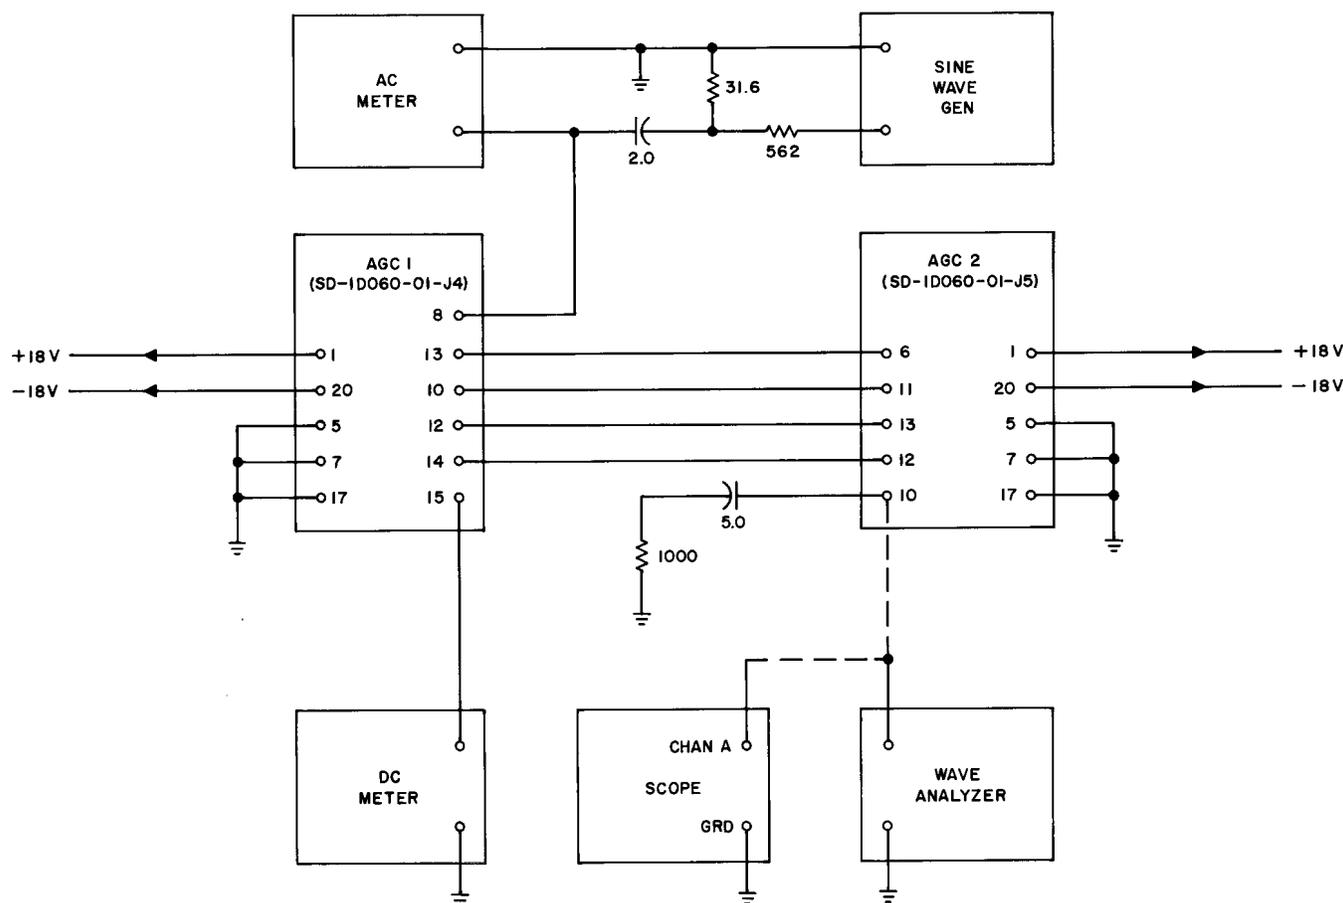

Fig. 27A — Automatic Gain Control 2 Test Circuit
(1) The gain control test of the AGC2 circuit pack is made in conjunction with the AGC1 circuit pack. Connect the circuit packs to the suggested test circuit shown in Fig. 27A with the scope connected to terminal 10 of the AGC2 circuit pack. Apply power to both circuit packs as specified in 5.16A.
(2) Set the frequency of the sine-wave generator to 1800 Hz (± 5 percent). Set the output level of the generator to 0.
(1) The distortion measurement of the AGC2 circuit pack is made in conjunction with the AGC1 circuit pack. Connect the circuit packs to the suggested test circuit shown in Fig. 27A, with the wave analyzer connected to terminal 10